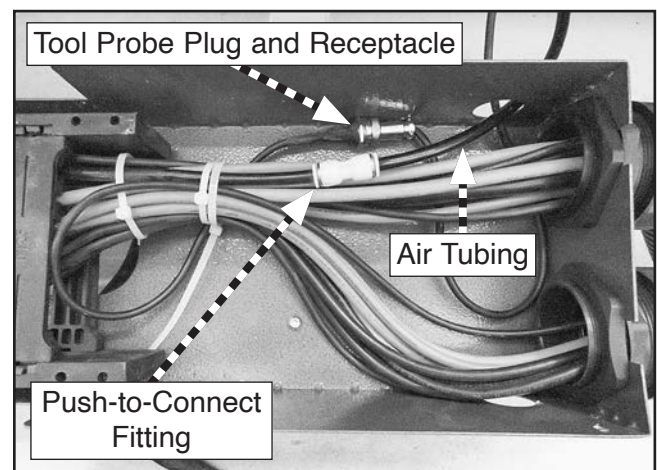

Figure 40. Example of cable carrier access area connections.
9. Connect tool probe plug to receptacle in cable carrier access area, then insert end of air tubing into push-to-connect fitting on air line (see **Figure 40**).